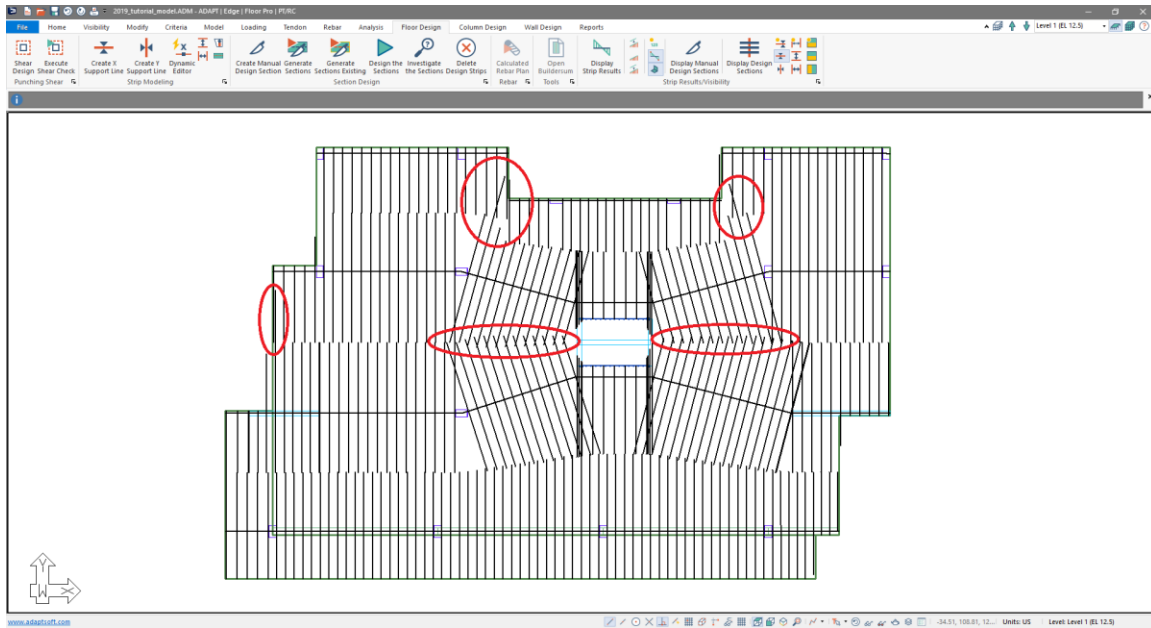

Figure 9-22
- As highlighted in **FIGURE 9-22** there are some locations where design sections are intruding into locations, we would rather they did not.